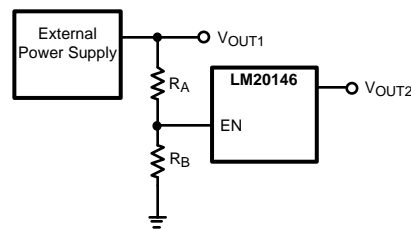

Figure 33. Sequencing LM20146 with Precision Enable
The precision enable (EN) and power good (PGOOD) pins of the LM20146 can be used to address many sequencing requirements. The turn-on of the LM20146 can be controlled with the precision enable pin by using two external resistors as shown in Figure 33.